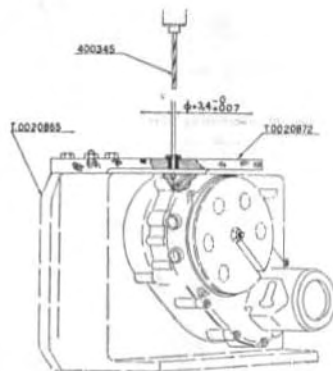

Fig. 23 - Tool holder with milling cutter
- Using the work holder T. 0020865 and the holder T. 0020866 provided with the four milling cutters 781103 (see Fig. 23), level off the resting surface for cylinder, on a milling machine, so as to obtain the dimension indicated on the figure; all lugs of gauge T. 15362/C should rest on the surfaces indicated on the figure.